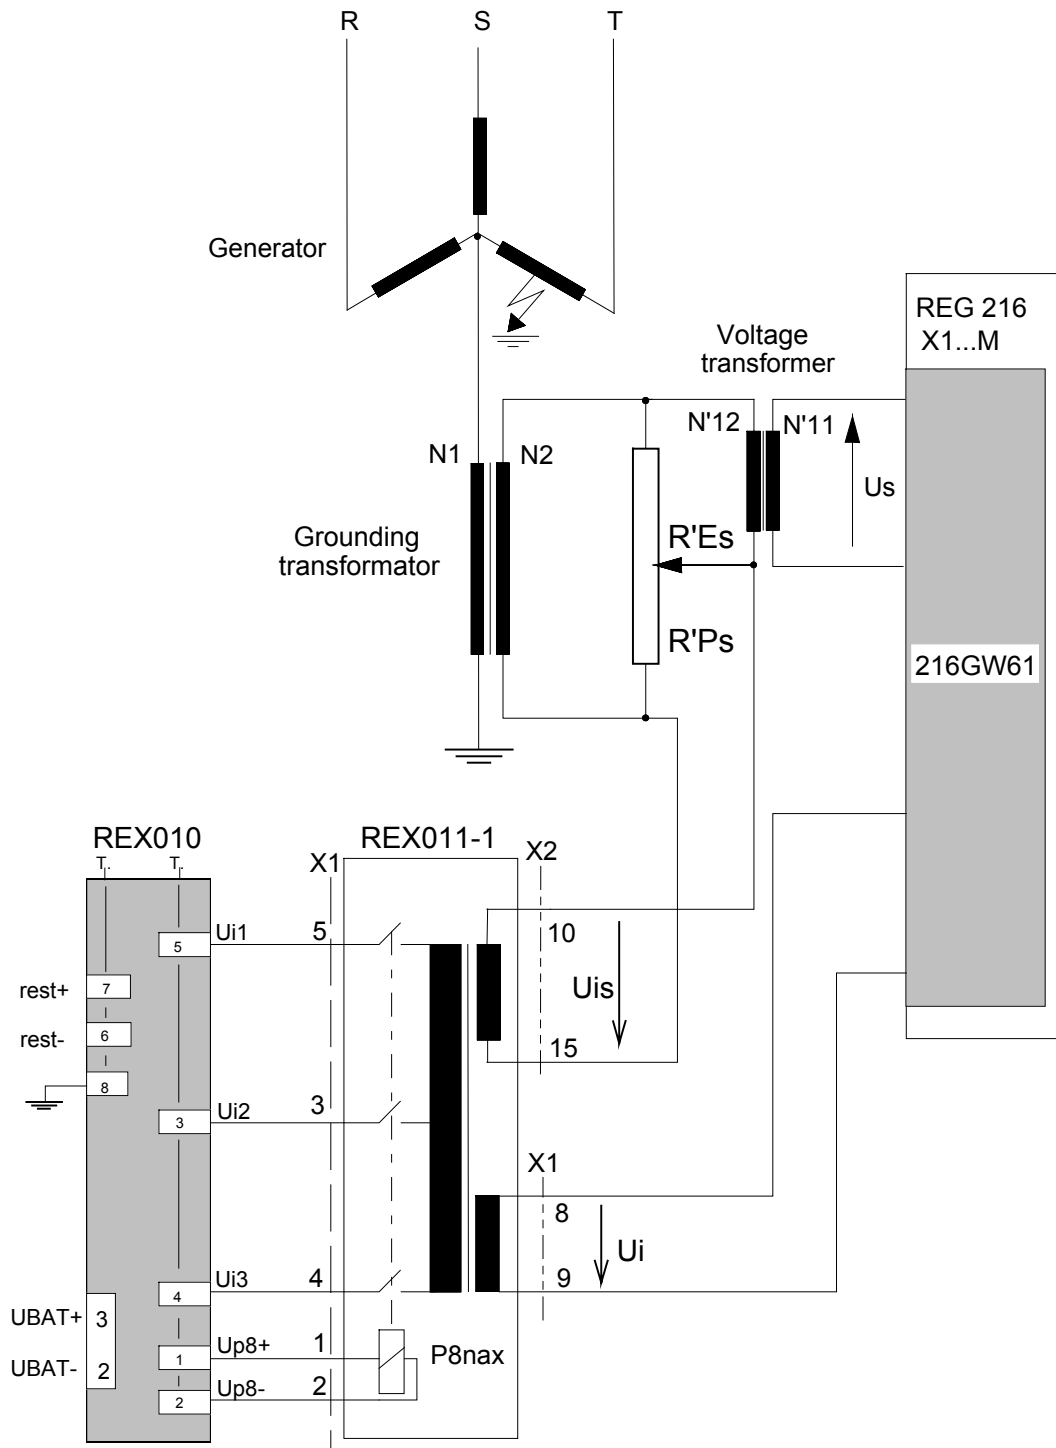

Fig. 2.23 Wiring diagram for REX 011-1 for secondary injection of the stator at the star-point (see also Fig. 2.29)
- Fig. 2.23 Wiring diagram for REX 011-1 for secondary injection of the stator at the star-point